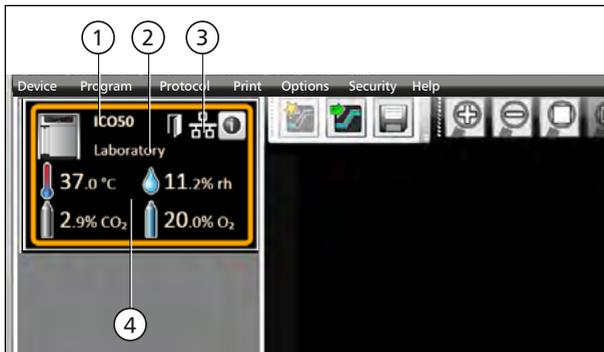

Fig. 1
- 1 If the appliance is connected to the computer via Ethernet and it has already been logged on once, it is automatically recognised and the current operating state (temperature, alarms) is displayed (Fig. 1).